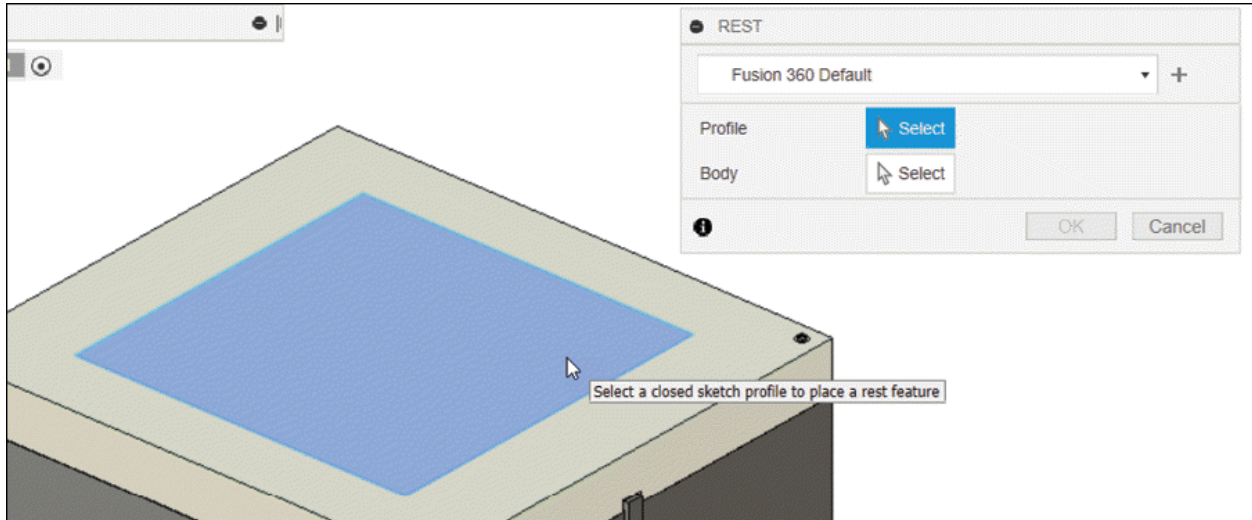

Figure-159. REST dialog box
- Click on the **Rest** tool from the **CREATE** drop-down of **PLASTIC** tab in **Toolbar**. The **REST** dialog box will be displayed and you will be asked to select a profile; refer to Figure-159.